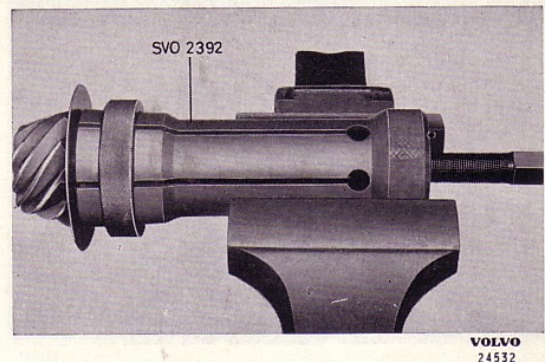

Fig. 14. Removing the rear pinion bearing.
11. If necessary, pull off the rear bearing (29) from the pinion (28) by using puller SVO 2392, see Fig. 14.